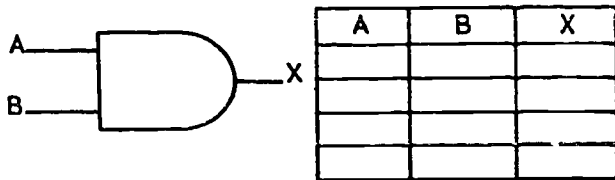

Figure 1-18. Figure for objective 001, exercise 5.
5. Construct the truth table for the logic symbol shown in figure 1-18.